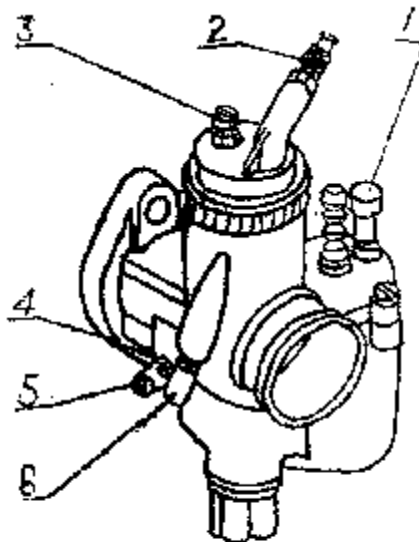

Fig.11
4.5.1.3 Screw in the idling adjusting screw (Item 6 in Fig 11) clockwise to raise the throttle valve, increase slightly the engine RPM so that one cylinder can operate continuously with throttle at minimum operating state. Remove the high tension cable from the other cylinder and ground it.